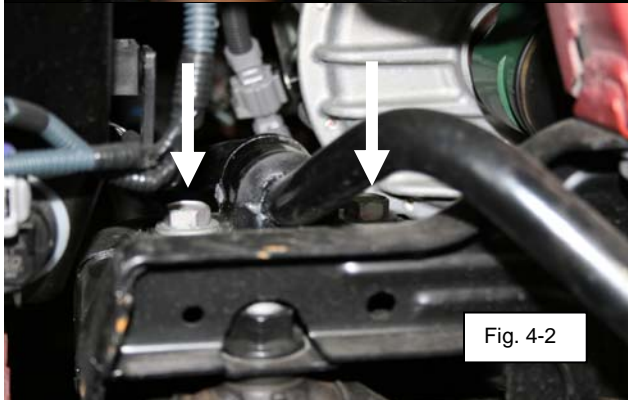

Fig. 4-2
- (c) Remove the bolts from the front sway bar bushing bracket. (Fig. 4-2). See arrows.